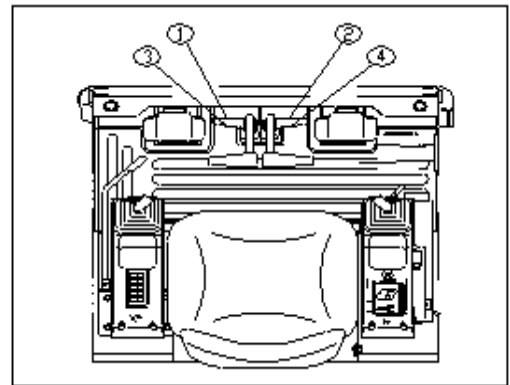

FIG 3-8
- Turn left: treadle right pedal 2 forward. (FIG. 3-8)
- Turn right: treadle left pedal 1 forward. (FIG. 3-8)